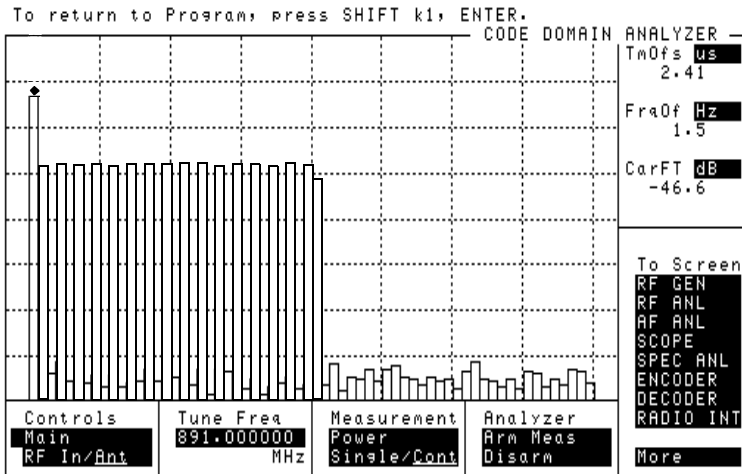

Figure 11
- 7 If the signal is correlated, you should see a display similar to that of figure 11, showing the pilot channel's level (Walsh code 0) and any other Sync, Paging, or Traffic channels that are active.